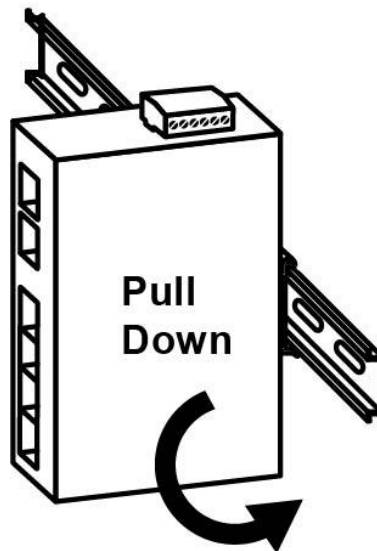

Figure 3.3: Stable the Switch on DIN-Rail
- Step 4 Lightly pull down the bracket on to the rail as shown below in Figure 3.3.